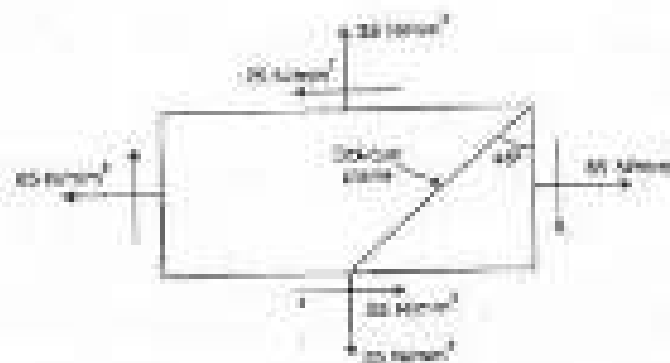

Fig 1
- b) A point in a strained material is subjected to stressors shown in Fig. 1 Using Mohr's circle method, determine the normal and tangential stresses across the oblique plane. Check the answer analytically. [9]